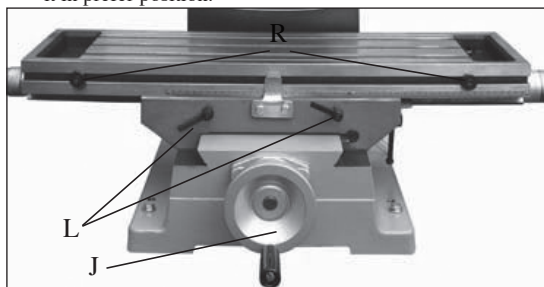

Fig. 9
3. 1.Adjust the table stops (N-fig. 9) when setting the feeding length. Turn counter-clockwise a few thread and slid it horizontally and lock it in prefer position.